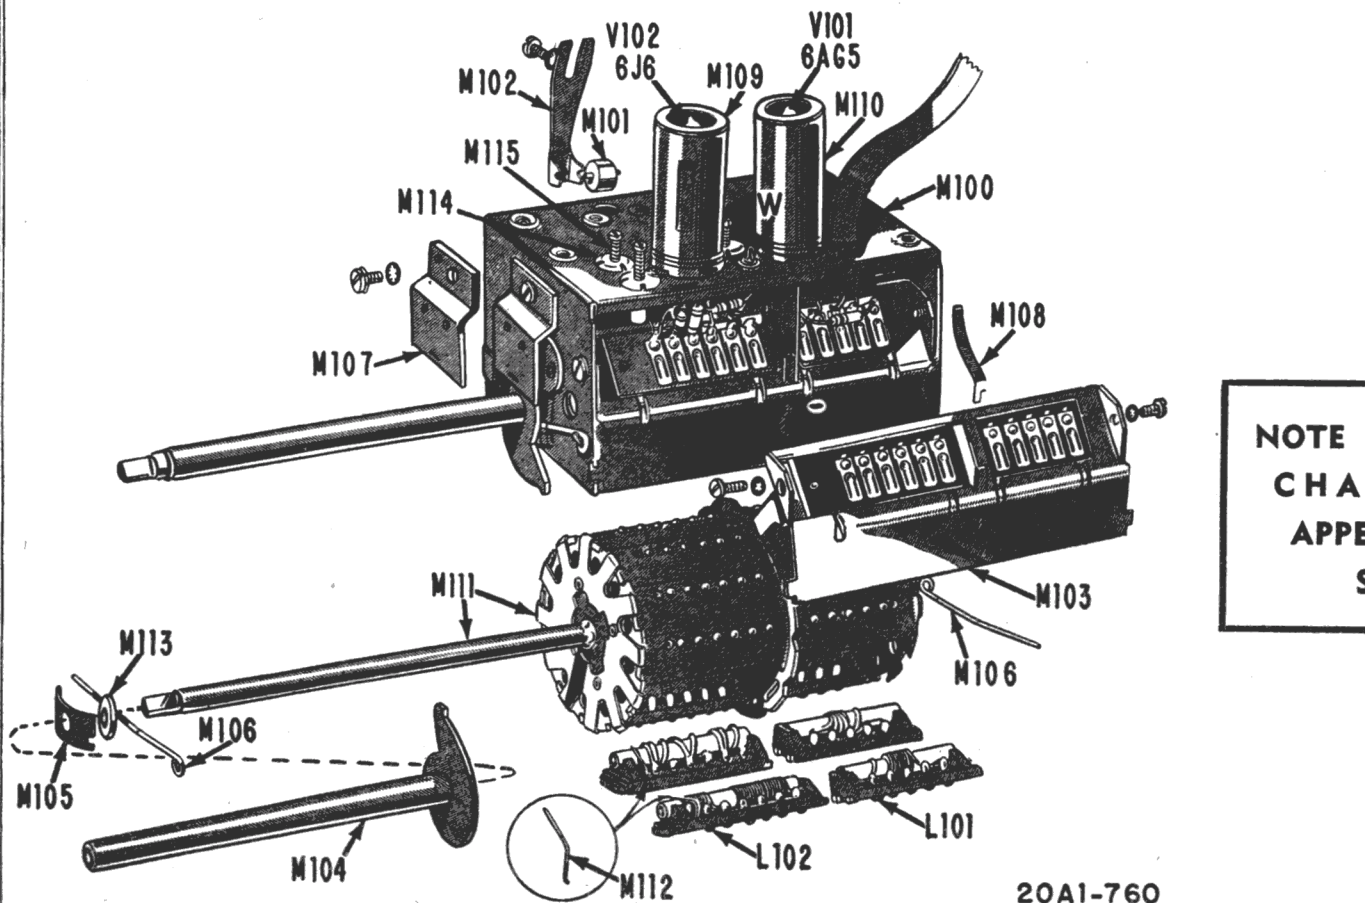
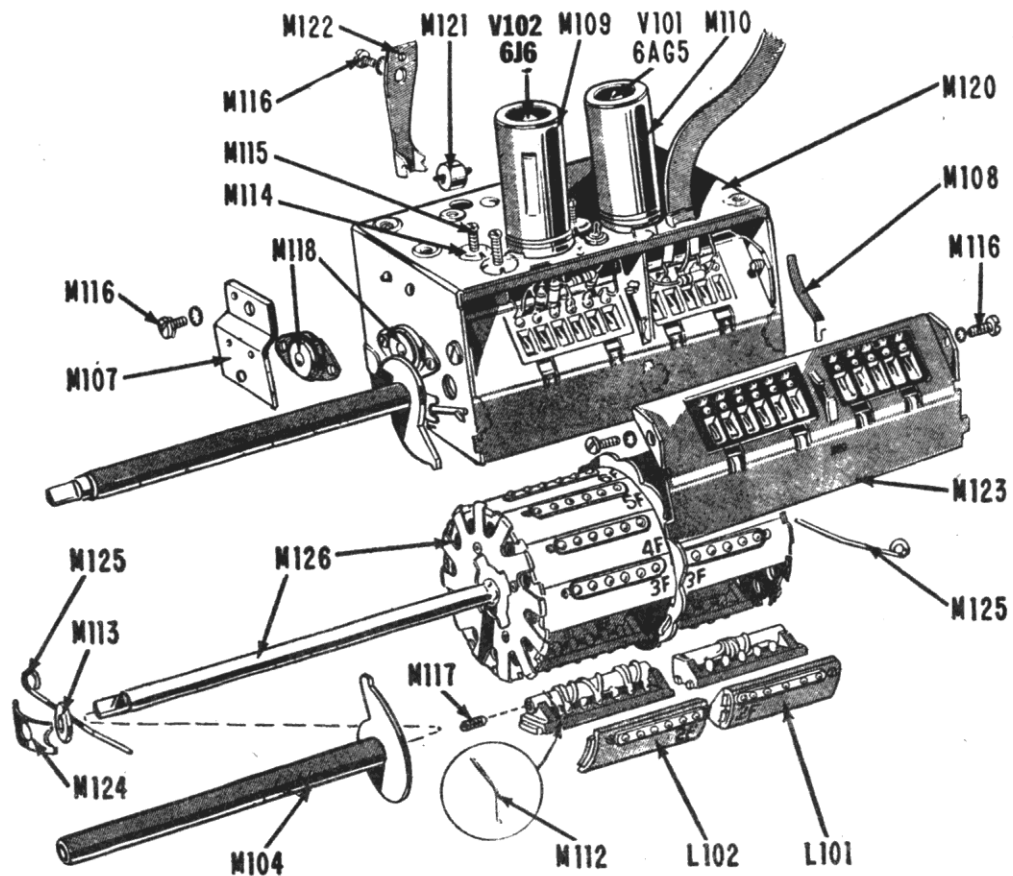

Figure 78. TV Tuner 94C21-1, Exploded View.
Figure 80. TV Tuner 94C21-2, Exploded View.
The most noticeable identifying feature of the 94C21-2 Tuner is the individual channel coils. The coils on the 94C21-2 Tuner are stamped 2F, 3F, 4F, etc. and the coil contacts are mounted on a "raised" portion on the surface of the coil. See Figure 80.
The coils on the 94C21-1 Tuner are stamped 2, 3, 4, etc. (without letter "F") and the coil contacts are mounted on the flat surface of the coil. See Figure 78.
If HF oscillator slugs M177 "fall into" coil form, remove the channel coil, move the slug retaining spring M112 aside, and tap the coil assembly until the slug slips forward. Set the coil retaining spring into position; it should rest firmly against the slug. See figure 80.
- Remove retaining bracket M107 in front of the tuner. See figure 80.
- Remove the mounting screws at the front and rear of Contact Plate and Bracket Assembly. See figure 78 for 94C21-1 tuner, figure 80 for 94C21-2 tuner.
- Resolder wiring connections and solder joint. See figure 78.